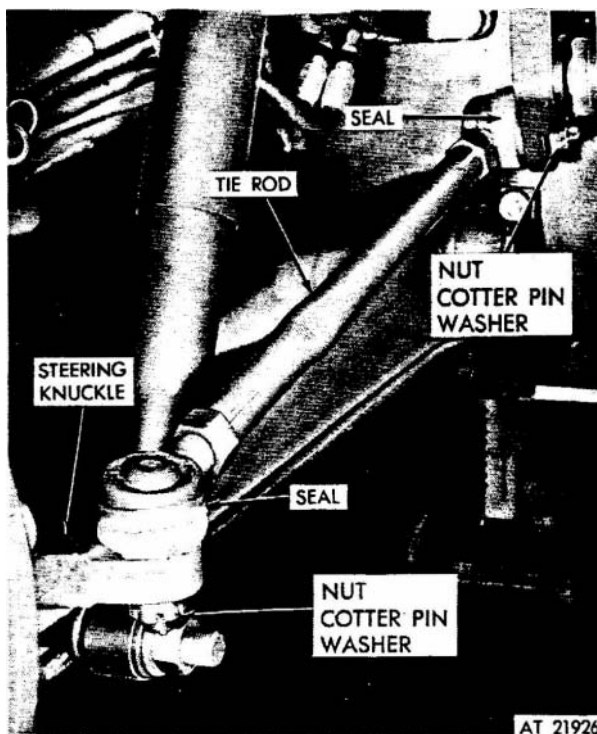

Figure 2-273. Tie rod assembly, removal and installation.
(1) Remove cotter pin, washer and nut securing tie rod end to steering knuckle (fig 2-273).